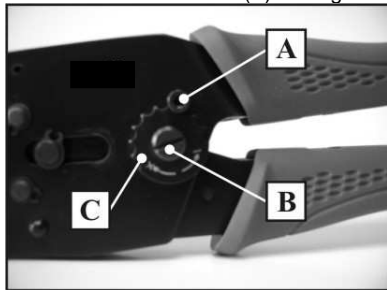

Fig.5.
1. Loosen and remove allen head screw (A) using a 2.5 mm allen wrench. (Fig.5.)
2. Using a screw driver turn eccentric axle (B) and toothed adjustment wheel (C) into new position.
3. Reinstall allen head screw (A) and tighten it.